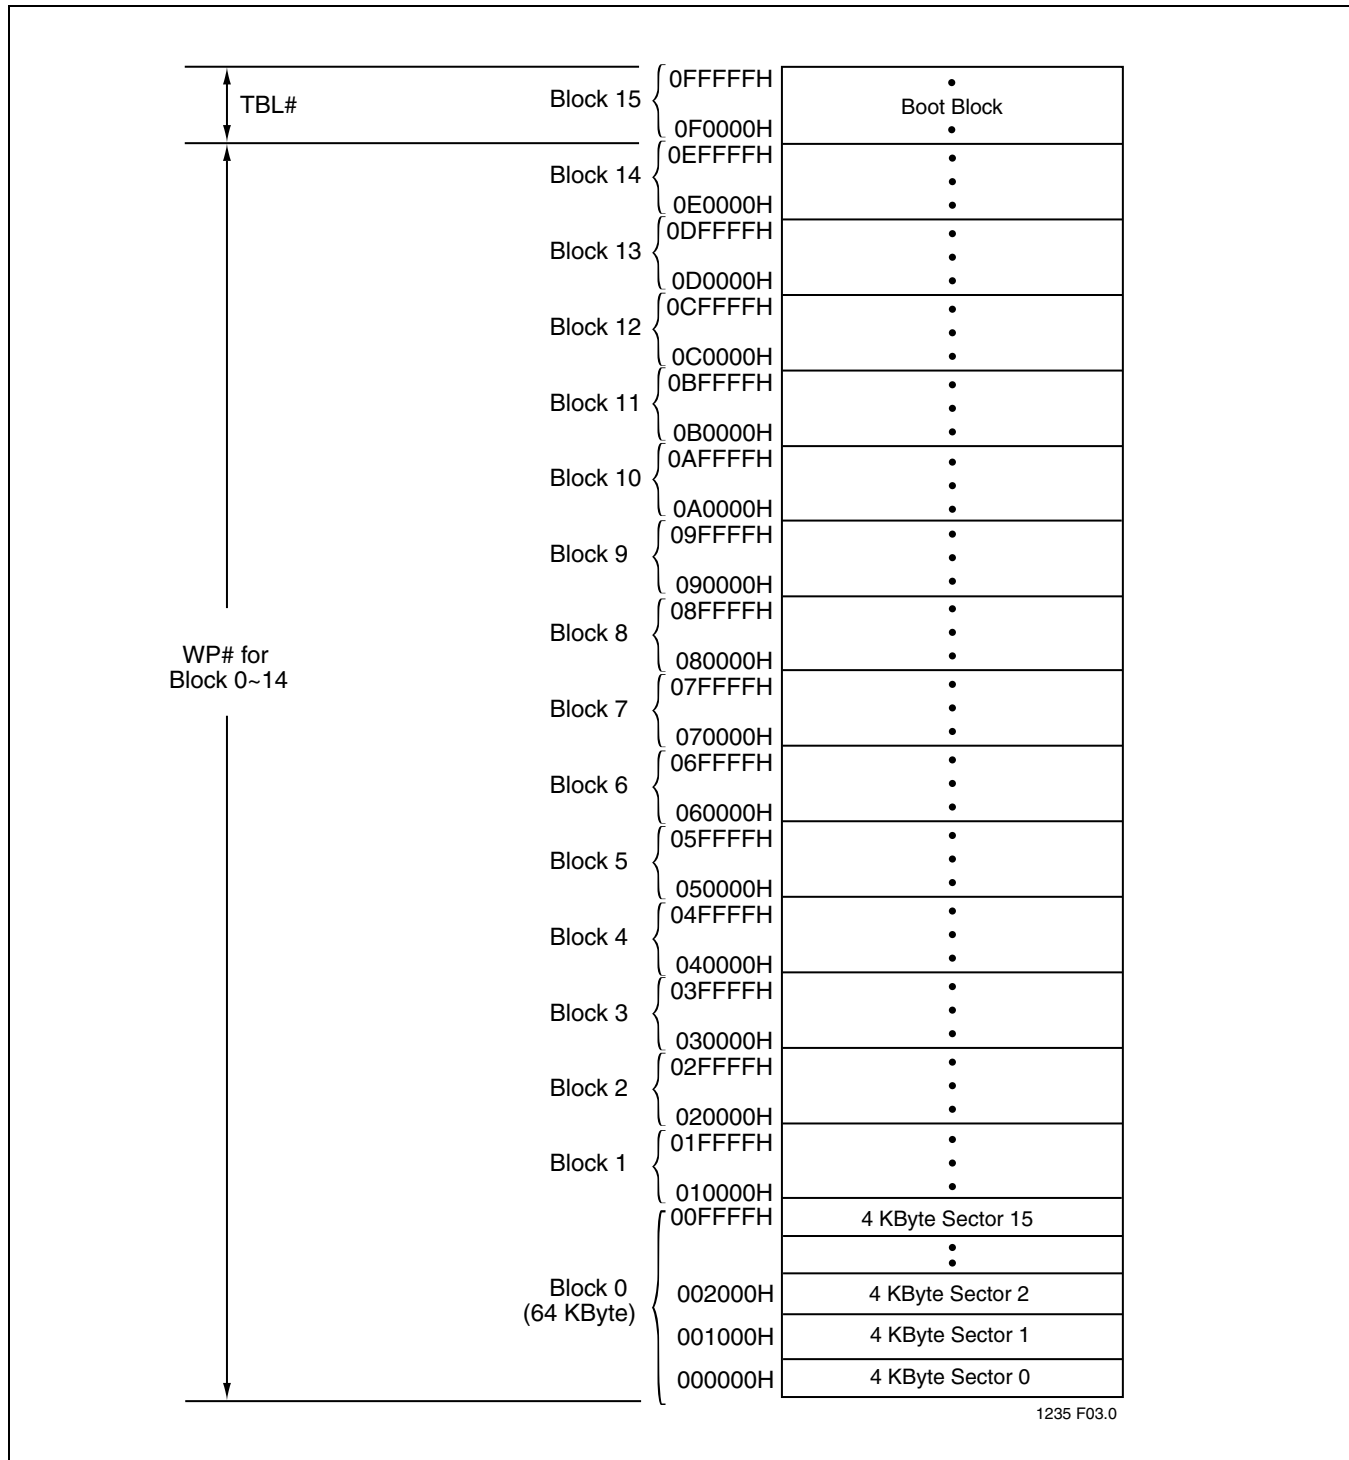

FIGURE 4: Device Memory Map
The SST49LF080A flash memory devices can operate in two distinct interface modes: the LPC mode and the Parallel Programming (PP) mode. The mode pin is used to set the interface mode selection. If the mode pin is set to logic High, the device is in PP mode. If the mode pin is set Low, the device is in the LPC mode. The mode selection pin must be configured prior to device operation. The mode pin is internally pulled down if the pin is left unconnected. In LPC mode, the device is configured to its host using standard LPC interface protocol. Communication between Host and the SST49LF080A occurs via the 4-bit I/O communication signals, LAD [3:0] and LFRAME#. In PP mode, the device is programmed via an 11-bit address and an 8-bit data I/O parallel signals. The address inputs are multiplexed in row and column selected by control signal R/C# pin. The row addresses are mapped to the lower internal addresses (A₁₀₋₀), and the column addresses are mapped to the higher internal addresses (A_{MS-11}). See Figure 4, the Device Memory Map, for address assignments.